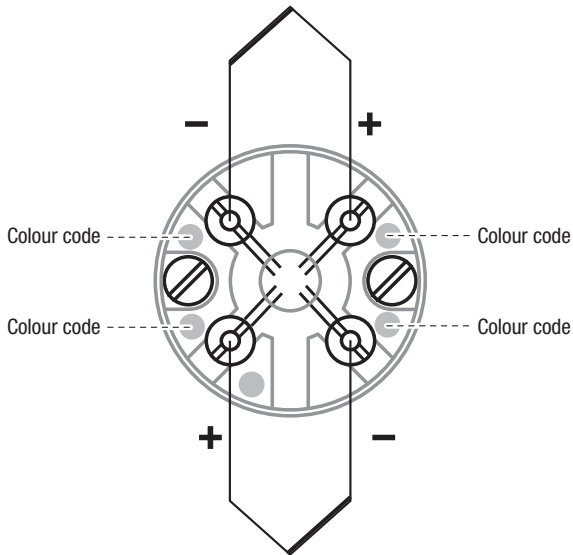

Fig. 15
Make sure that the TRG 5-11 or TRG 5-41 and the associated control unit TRS 5-7 are wired in accordance with the wiring diagram, **Fig. 15**.
5. Connect terminals according to wiring diagram, **Fig. 15**